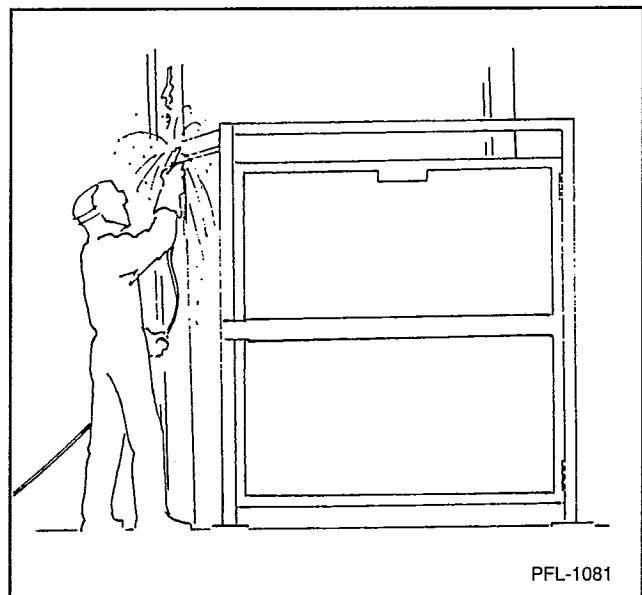

Figure 6
12. Weld angle iron header to gate posts. See Figure 6.